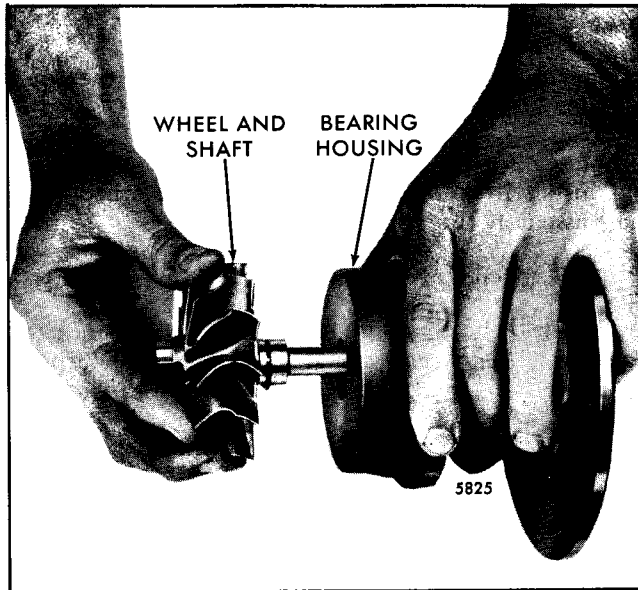

Fig. 15 - Installing Shaft and Wheel Assembly Through Back Plate into Bearing Housing
4. Lubricate the piston ring area of the shaft and wheel assembly with clean engine oil and install it through the backplate and into the bearing housing (Fig. 15).